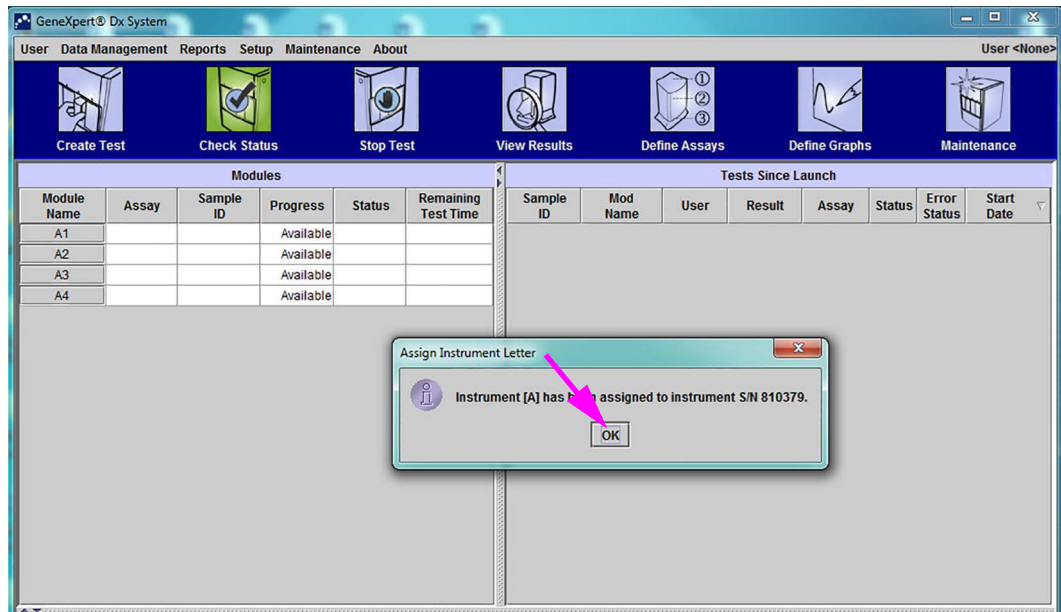

Figure 2-31. GeneXpert Dx System Window
9. On this screen, select **Use the following IP address:**. See Figure 2-31.